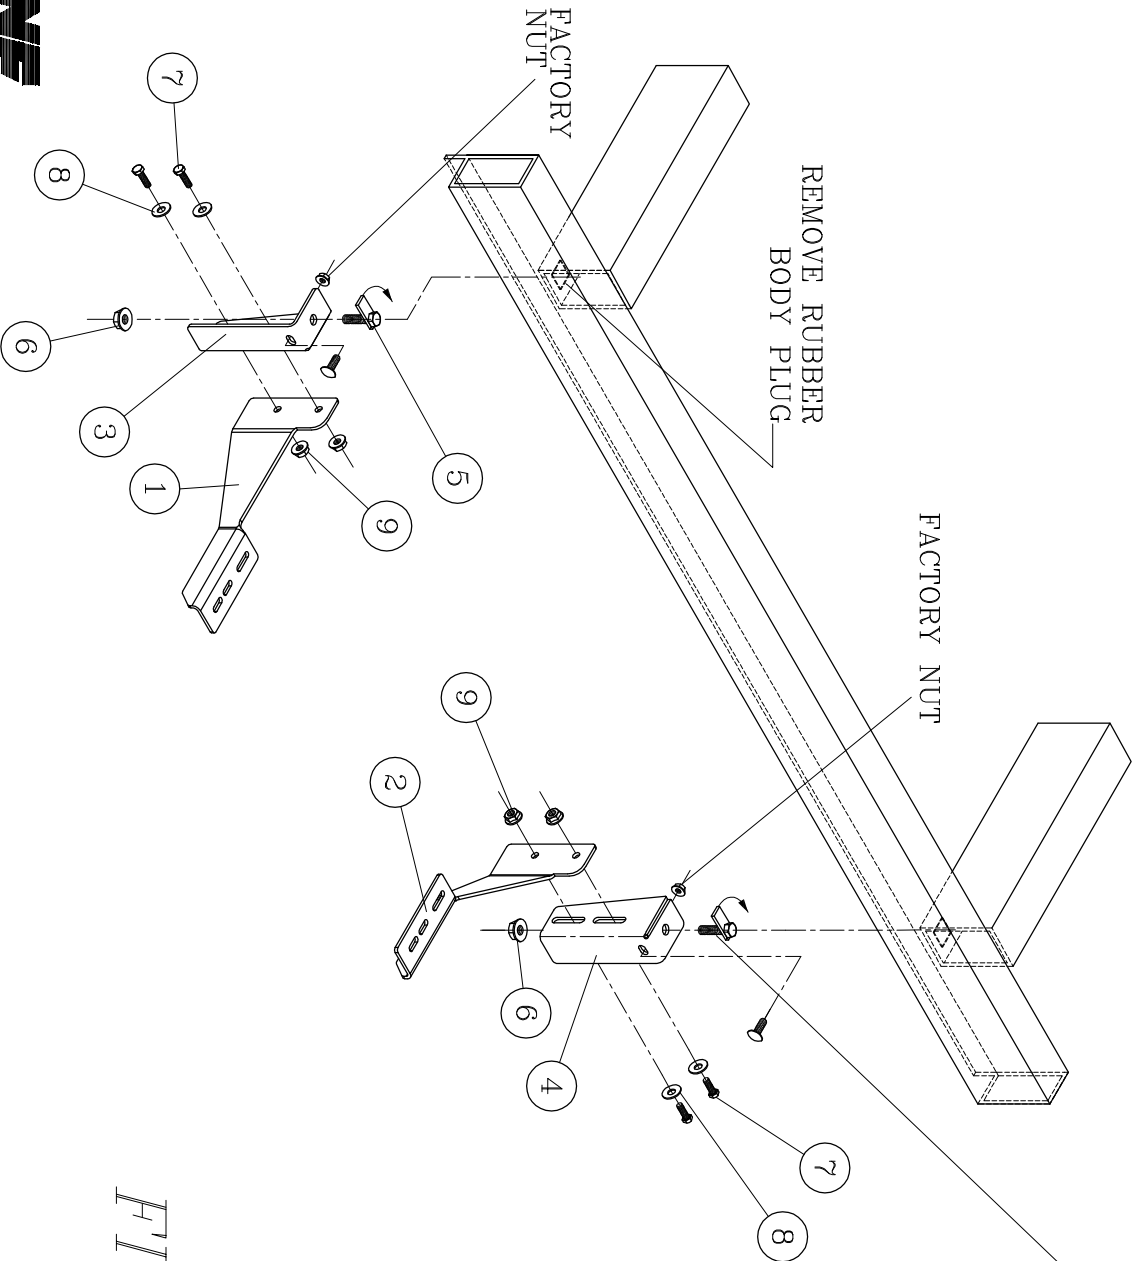

FIG. 1
3. BEFORE ATTACHING THE O-MEGA STEPS TO THE BRACKETS, PLACE THE STEP PADS (ITEM #2) ON TOP OF THE STEP PLATES ACCORDINGLY FOR YOUR VEHICLE. USING THE HOLES IN THE STEP PAD AS A GUIDE DRILL (5) 1/8" PILOT HOLES. ATTACH WITH (5) #8-18X1/2" TEK SCREWS (ITEM #6) PROVIDED. REPEAT FOR ALL STEP PADS.
5. INSTALL THE END CAPS (ITEM #3) AS SHOWN IN (FIG.1), TIGHTENING THE SERRATED NUTS (ITEM#5) TO 5 LB FT.
2. ATTACHING THE BRACKETS TO THE VEHICLE AS SHOWN IN FIG 1: